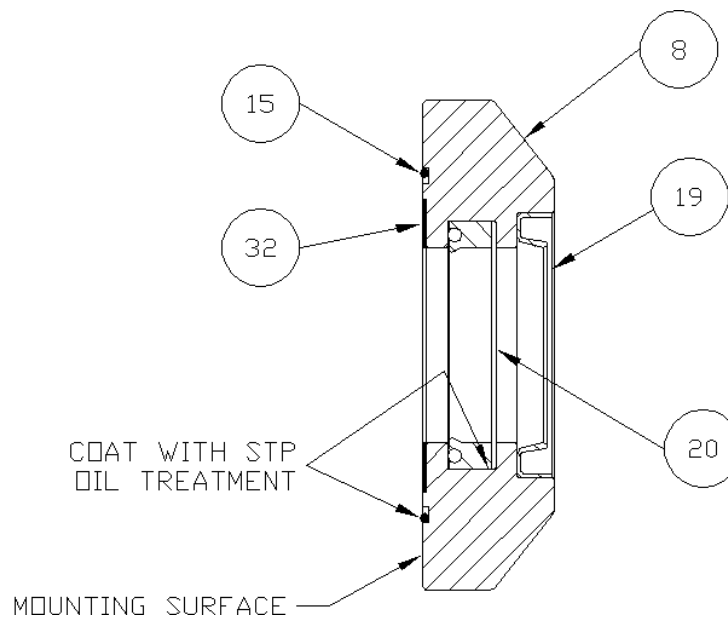

figure A-11
16. Thoroughly clean the bearing caps (8) (fig. A-11) with a mild solvent and lubricate all seal grooves with STP oil treatment. Place the bearing caps (8) on the table (mounting surface down) and install the wiper ring (19) in the outside groove using a rubber mallet or small press. *(Avoid using tools that may damage seals or scratch bearing cap or bearing surfaces.)* Turn the bearing cap (8) over. Collapse the pinion seal (20) and carefully work it into the groove. Use fingers to carefully press the seal completely into the groove as shown in figure A-11. ***Be careful not to score or scratch the sealing surface during the installation.*** Install the bearing cap seal (15) and thrust washer (32) into their respective grooves on the bearing cap mounting surface as shown in figure A-11.
17. Coat the bearing cap seal area and pinion seal area shown in figure A-11 lightly with STP Oil Treatment.